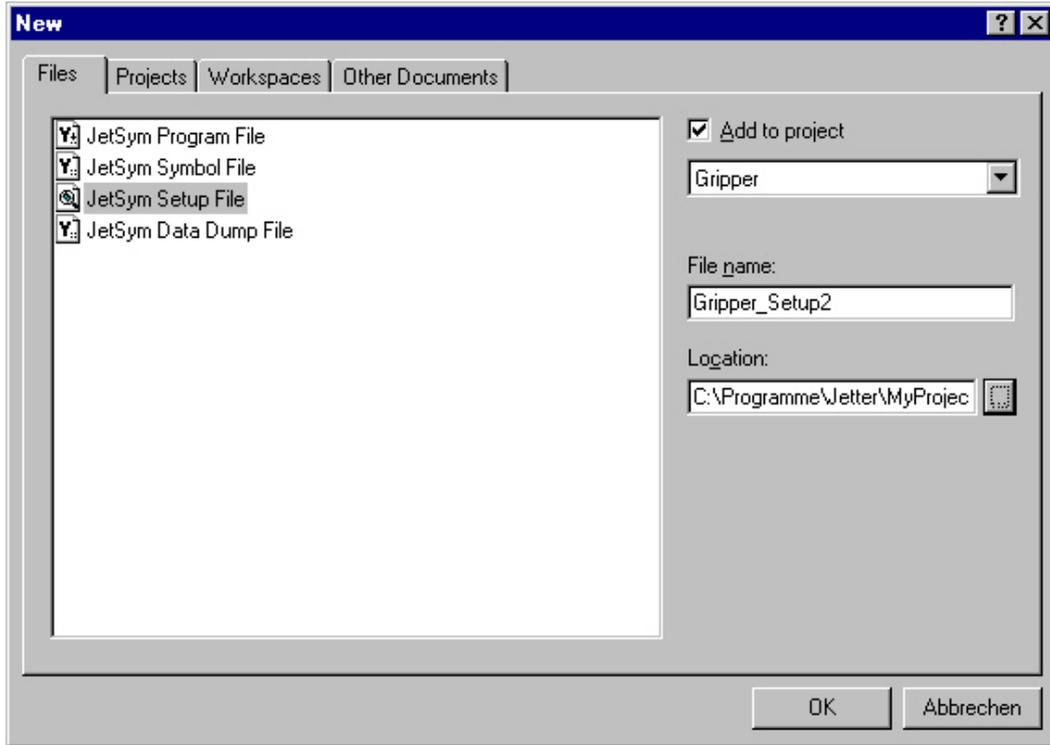

Figure 6
- Select *File / New* from the menu or press the *Ctrl-N* key combination. A dialog window opens as shown in fig. 6. Select the file type *JetSym Setup File* and enter the file name in the *File name* text field, e.g. Gripper. Next, click *OK*.